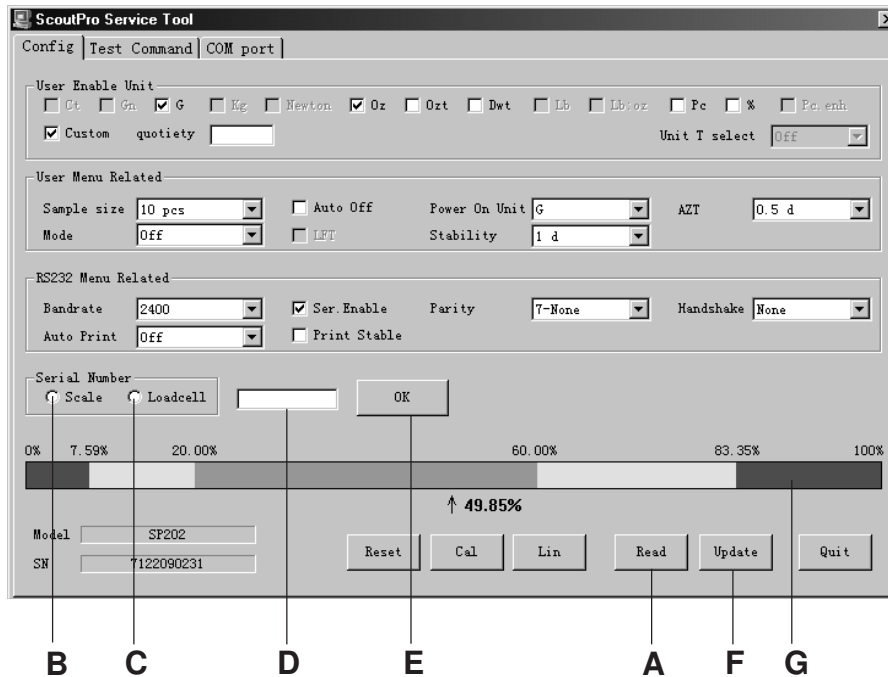

Figure A-7.
5. When communications are reliable return to the **Config** tab. Press the read button (A) and the data will be read from the balance. See Figure A-7.